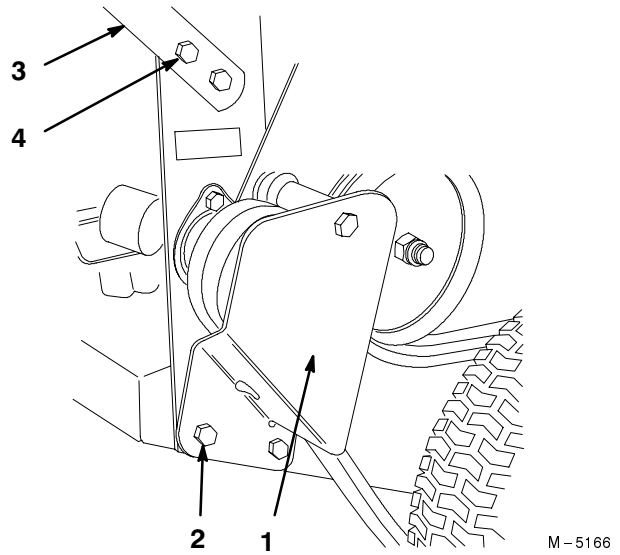

Figure 2
1. Remove 2 capscrews and locknuts securing bottom of right hand support bracket to rear frame (Fig. 2).
2. Remove top flange head screw and flangenut securing right side of handle to frame (Fig. 2).